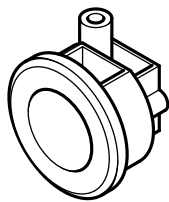

Fig. 34
4. Slacken the cable clamp on the LH side of the boiler chassis (Fig. 34). Insert the cable through the clamp and route it to the terminal block.